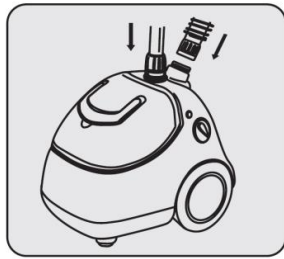

Fig.2
2. Insert the telescopic pole into the pole connector. (See Fig.2)